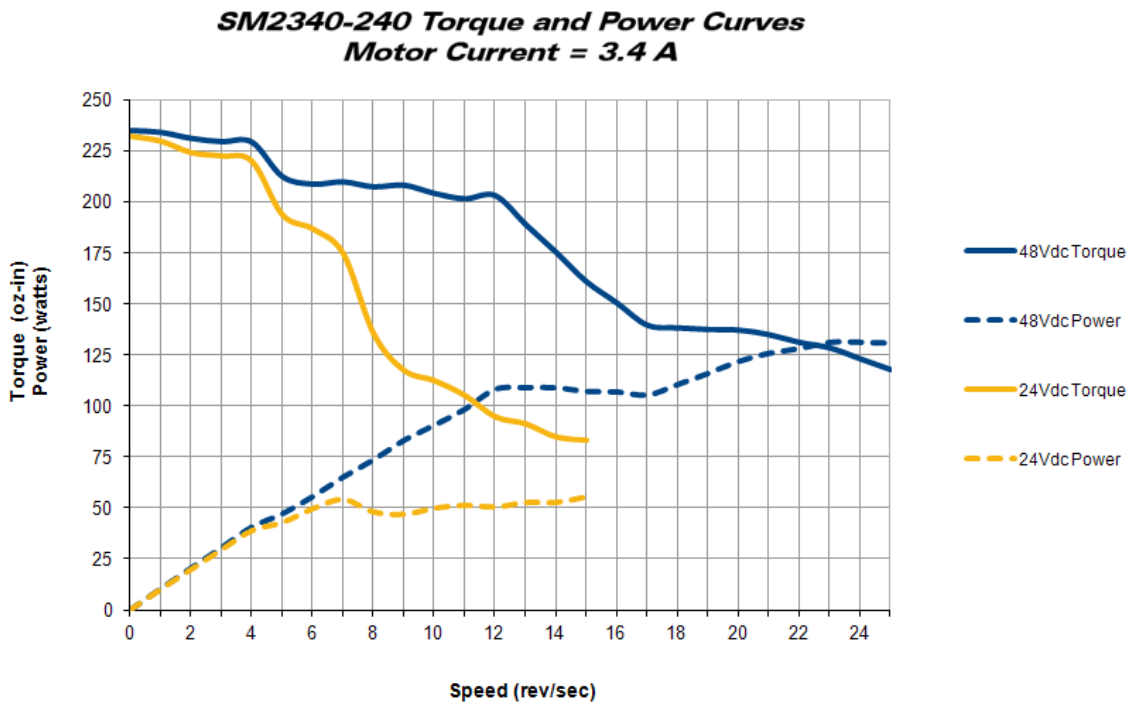

Figure T1.2 SM2340-240 Torque and Power Curves
**Example 2:** An SD2340-240 will be running at a maximum of 9 RPS and a 24 Vdc supply will be used. Based on the power curve in figure T1.2 on page 84, the power at this speed is 45 W, but the maximum power over the entire speed range is 55 W, which occurs at 7 RPS. Therefore, the 55 Watt value should be used, and the 24 Vdc supply should be able to generate 83 W to 97 W.